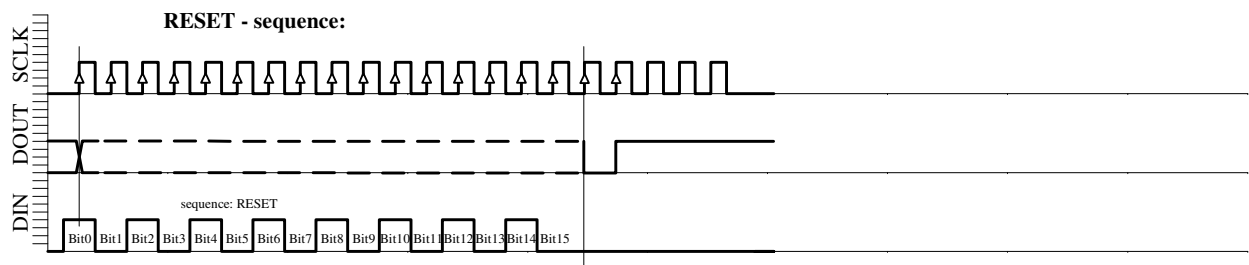

Fig. 6e: RESET sequence (21-Bit).
- RESET sequence (Figure 6e)
The RESET sequence is special as its unique pattern is recognised by the module in any state. By consequence it can be used to restart if synchronisation between the microcontroller and the MS5535-30C has been lost. This sequence is 21-Bit long. The DOUT signal might change during that sequence (see Fig. 6e). It is recommended to send the RESET sequence before first CONVERSION sequence to avoid hanging up the protocol permanently in case of electrical interference.